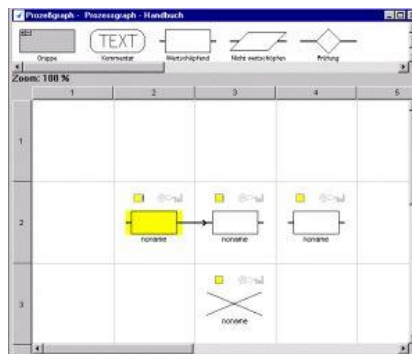

Figure 25: Linking Processes
- 3) While holding down the left mouse button, move the cursor to the second process symbol. Release the mouse button. The link between the two processes has been established. *Please refer to the Figure 25.*